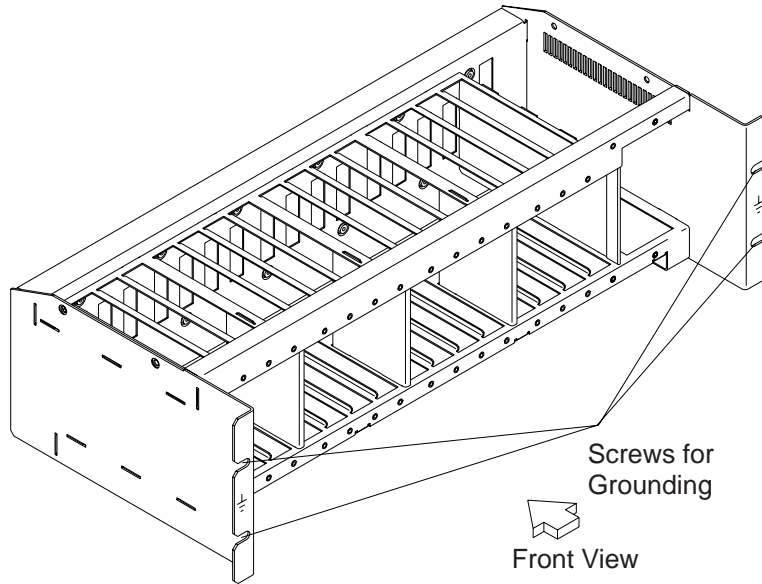

Figure 0-6. LCB Grounding Via Screws
- Check that electrical continuity is assured between the LCB housing and the controller expansion frame, if LCBs are present. This operation must be performed before any network connection (see Figure 0-6 on page xxiv).